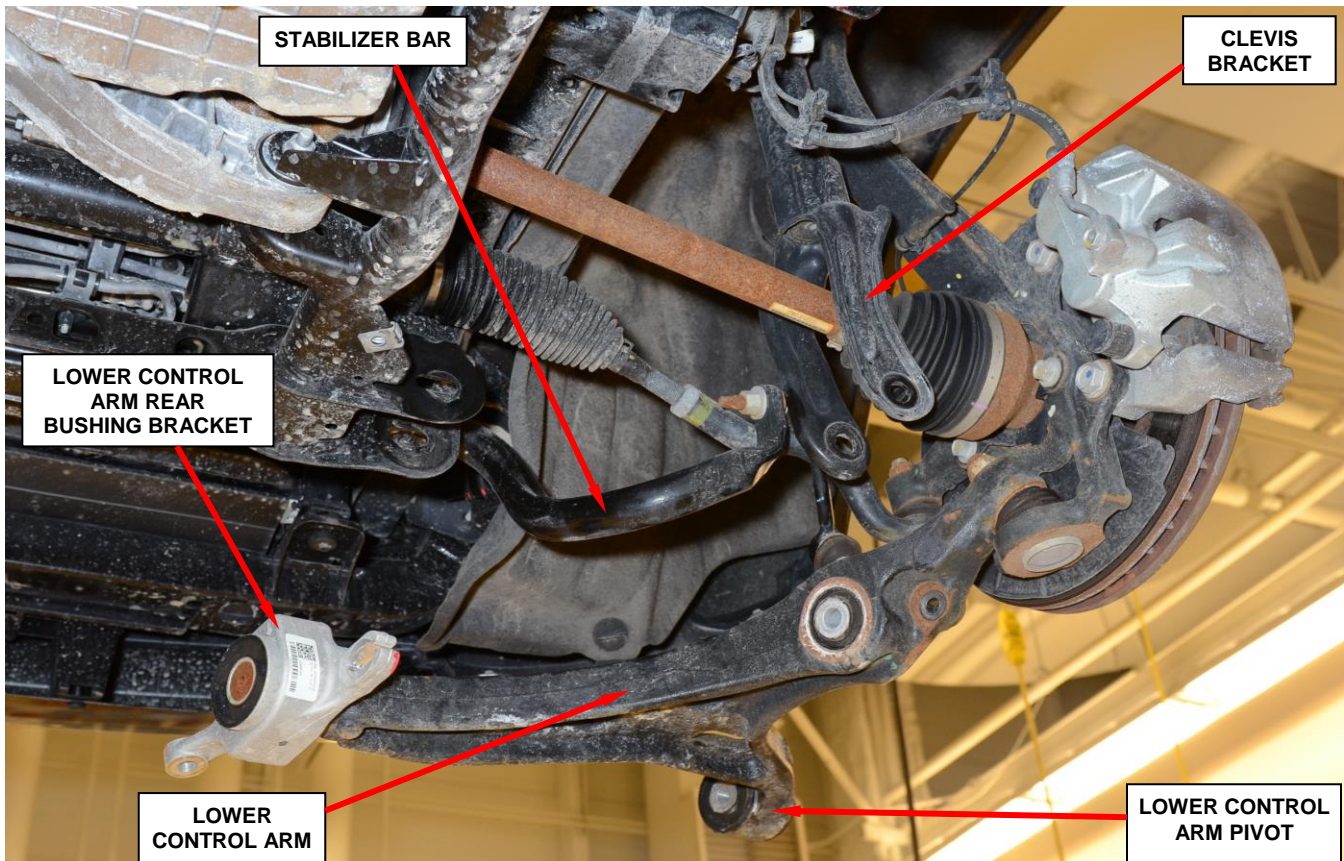

Figure 7 – Relocate Right Front Lower Control Arm
14. Relocate the right front lower control arm partially from vehicle (with ball joint still connected to the steering knuckle) (Figure 7).